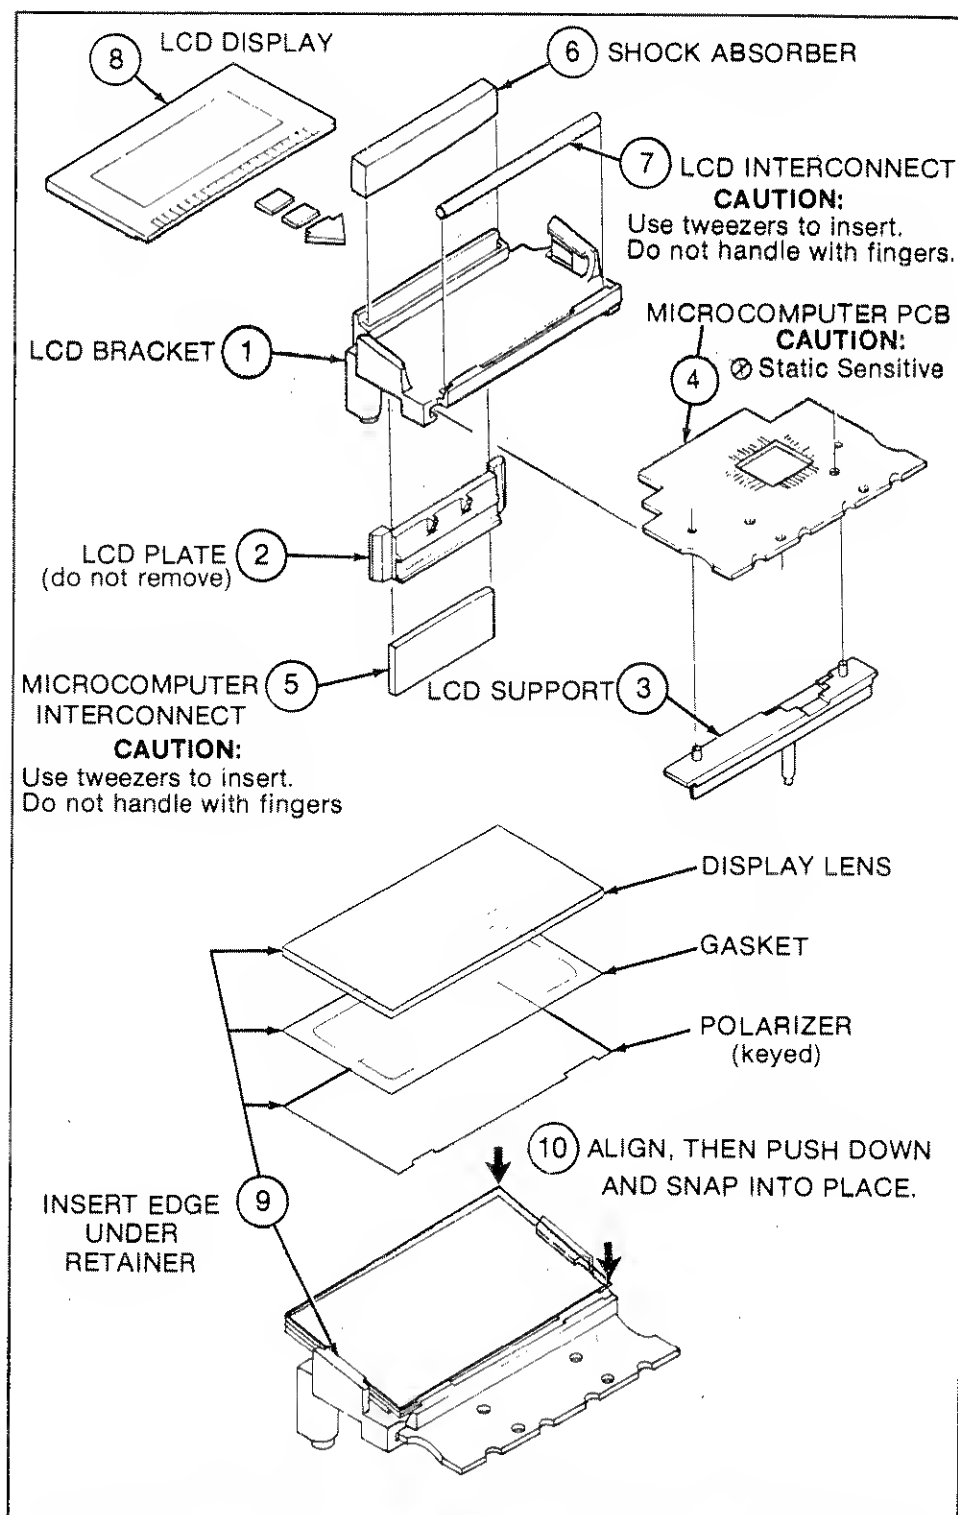

Figure 4-2. Assembling/Disassembling the Microcomputer PCB and LCD
The procedure for disassembling or assembling the LCD and the microcomputer pcb is not difficult, but the steps must be followed in sequence. Before you try the procedure, examine the components in Figure 4-2 and familiarize yourself with the following handling precautions:
- The microcomputer, U5 (item 4 in Figure 4-2), is a static sensitive CMOS device. Follow standard procedures for handling static sensitive devices.
- The LCD interconnect (item 7) and the microcomputer interconnect (item 5) should not be touched with fingers or contaminated. Handle these items with tweezers and keep them clean.
- The microcomputer interconnect (item 7) is susceptible to corrosion caused by the reaction between the metal in the connector and possible
1. Align the LCD display (item 8) as indicated in Figure 4-2 and slide it into place. The bottom edge of the LCD display should compress the LCD interconnect (item 7) and slide underneath the two plastic notches on the LCD bracket (item 1).
2. Refer to Figure 4-2 and follow steps 9 and 10 to complete assembly.
2. Refer to Figure 4-2. Beginning with item 7, remove items 7 through 3 (leave item 2 attached to item 1). Be sure to observe the handling precautions for items 7, 5, and 4.
To assemble the microcomputer LCD, refer to Figure 4-2. Beginning with item 3, assemble items 3 through 7 (in ascending numerical order). Be sure to follow the handling precautions for items 4, 5, and 7.